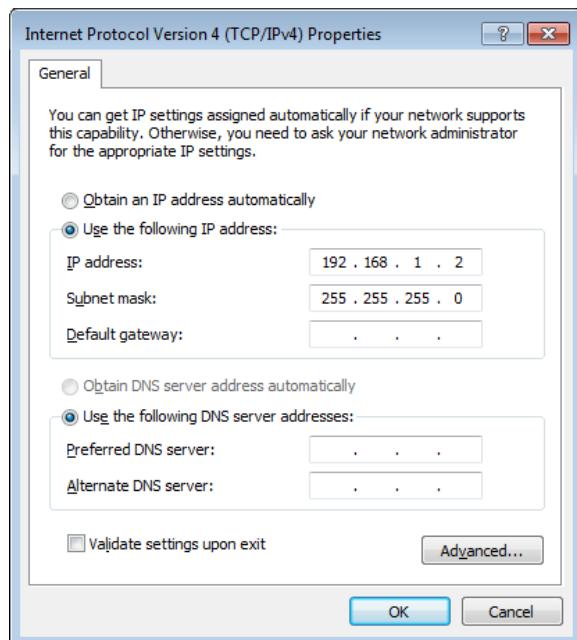

Figure 1.13. Static IP configuration of PC
1. Use one of the network cards and set it to static IP in TCP/IPv4 using the IP address `192.168.1.n`, where `n=[2..9]` and the mask `255.255.255.0`, see Figure 1.13 (go to Control Panel → Internet Options → Network and Internet → Network and Sharing Center → Local Area Connection → Properties).